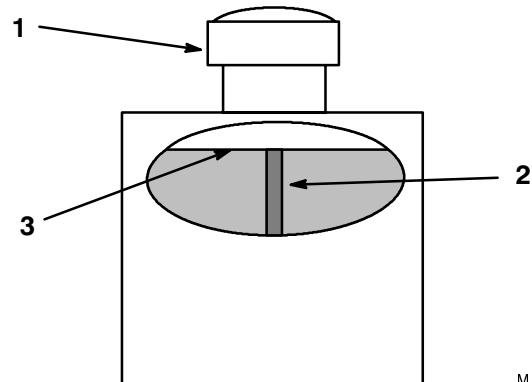

Figure 9
Note: Fluid level should be to the top of the baffle when fluid is warm (Fig. 9).
- Clean area around filler neck of hydraulic tank (Fig. 9).
- Remove cap from filler neck. Look inside to check if there is fluid in the reservoir. (Fig. 9).